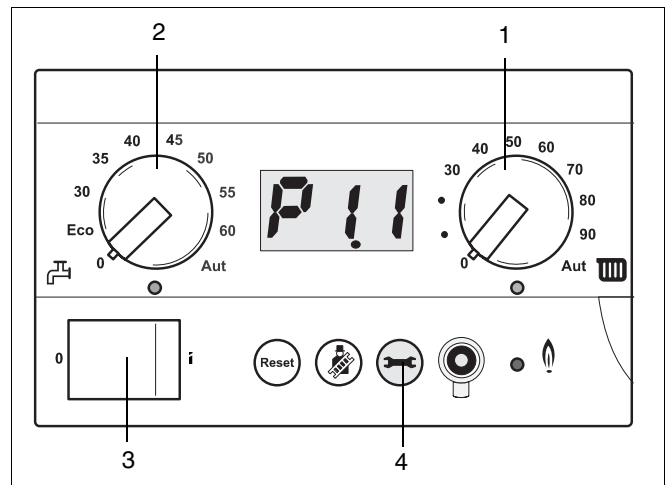

fig. 30 Control panel
- Adjust the knobs for central heating (→ fig. 30, item 1) and domestic hot water (→ fig. 30, item 2) to '0'.
- Set the switch on the BC10 to "1" (→ fig. 30, item 3)
- Press the service button (→ fig. 30, item 4) several times until the system pressure (for example P1.1) appears in the display.